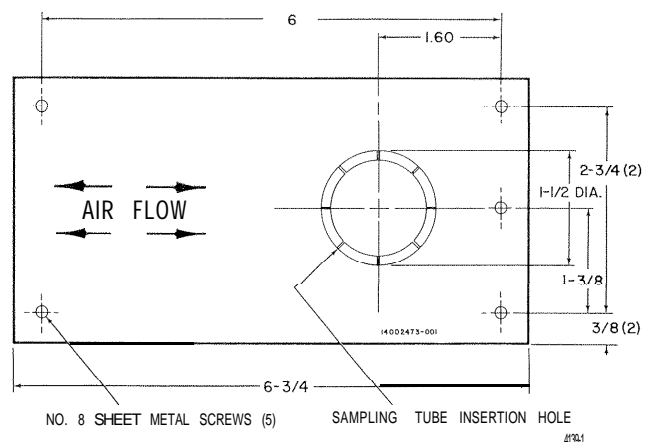

Fig. 1. Mounting Template.
2. Punch or drill the holes for No. 8 sheet metal screws (not included). See Figure 1.